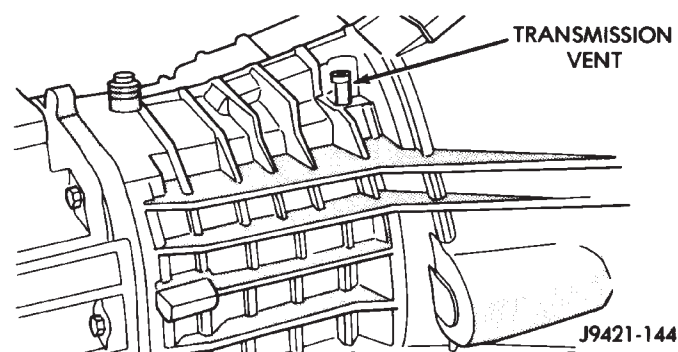

Fig. 135 Vent Location
(4) Fill transmission to bottom edge of fill plug hole with Mopar® Transmission Lubricant, P/N 4761526.
(5) Install and tighten fill plug to 19-27 N·m (14-20 ft. lbs.) torque.
(6) Check transmission vent (Fig. 135). Be sure vent is open and not restricted.